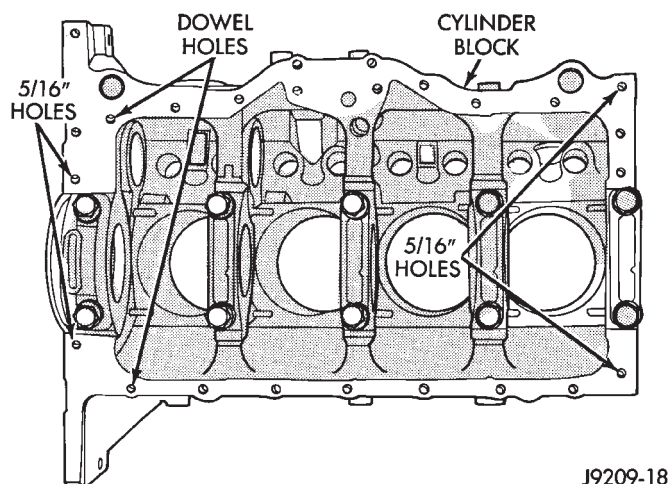

Fig. 59 Position of Dowels in Cylinder Block
(3) Install two dowels in the timing case cover. Install the other two dowels in the cylinder block (Fig. 59).
(4) Apply Mopar® Silicone Rubber Adhesive Sealant on cylinder block to rear main bearing cap corners and cylinder block to front cover joints (four places).